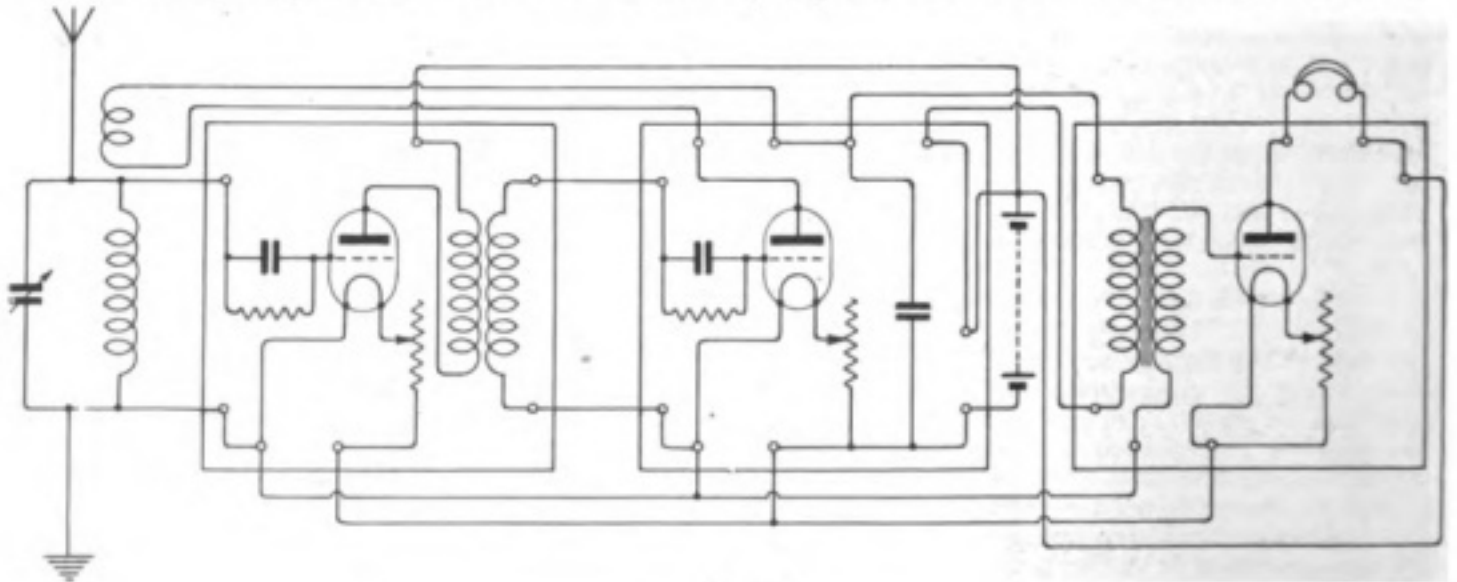

Fig. 5.
"C.H.B." (Fleetwood) asks (1) For alternative diagram to Fig. 5, page 15, April 1st issue, substituting connections for single slide A.T.I. with reaction. (2) If A.T.I., wound on a tube 8 1/2" x 4" with No. 30 S.S.C., is suitable. (3) Approximate wavelength of same.
(1) Many different methods are possible, one of which we give in diagram Fig. 5. (2) Yes. (3) Reactance can be used and will give greater selectivity. For method of wiring, see the diagram. (4) "R" valves may be used throughout, or "V 24" valves for amplifiers and "QX" for rectifier.